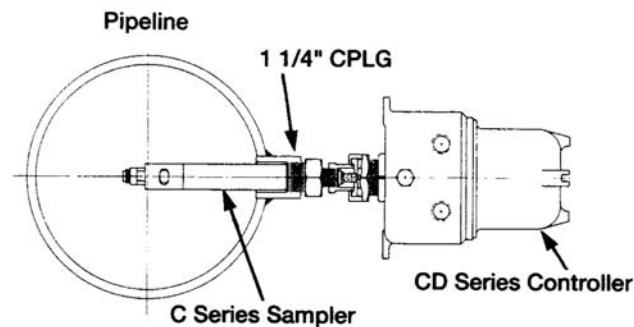

Figure 5—Typical installation of a non-retrievable sample probe (probe cannot be removed while the line is full and pressurized)
- 1 ¼-in.NPT 3000# threaded coupling welded onto the pipeline (Figure 5)